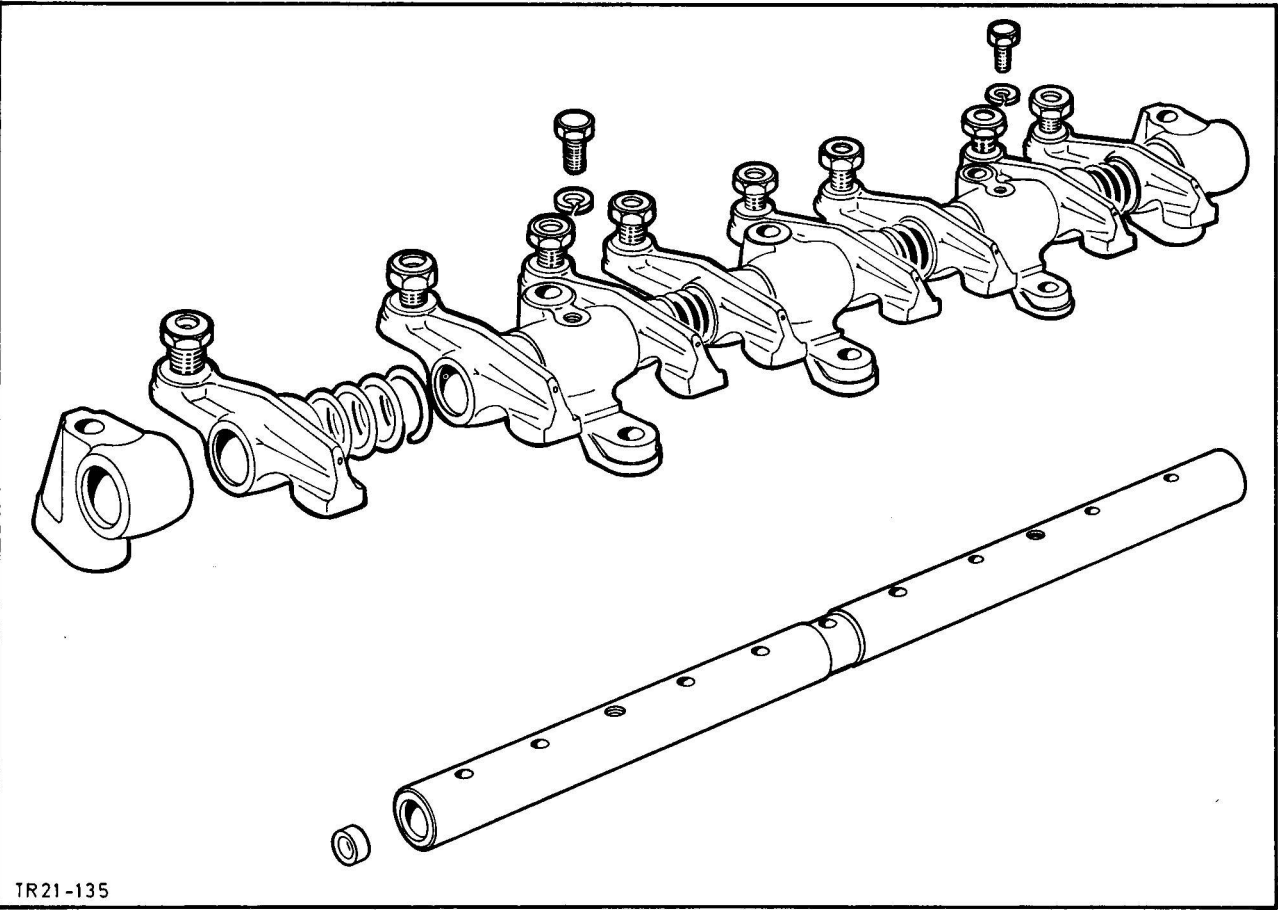

Fig. 124. Rocker shaft assembly dismantled
1. Remove outer rocker supports (2) and outer rocker arms (4) with springs (2) from rocker shaft.
2. Remove inner rocker supports (2) from shaft (2 bolts), then remove inner rocker arms (4) with springs (2), and centre support.
3. Assemble rocker shaft as shown in Fig. 124, having previously lubricated rocker shaft and rocker arm sliding faces.